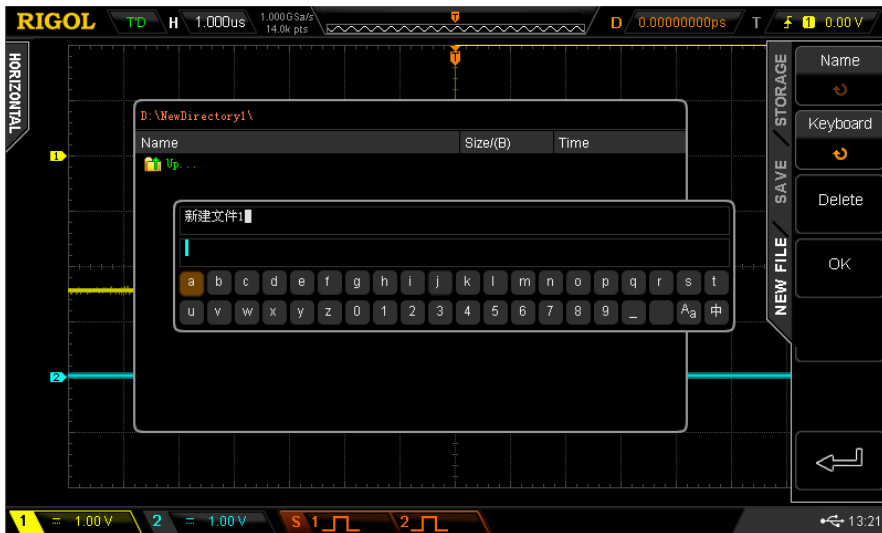

Figure 13-5 External Disk (Creating New File)
- 4) After the storage position is selected, press **New File** to turn on the interface as shown in Figure 13-5. Refer to the descriptions in To Create a New File or Folder to create a new file.